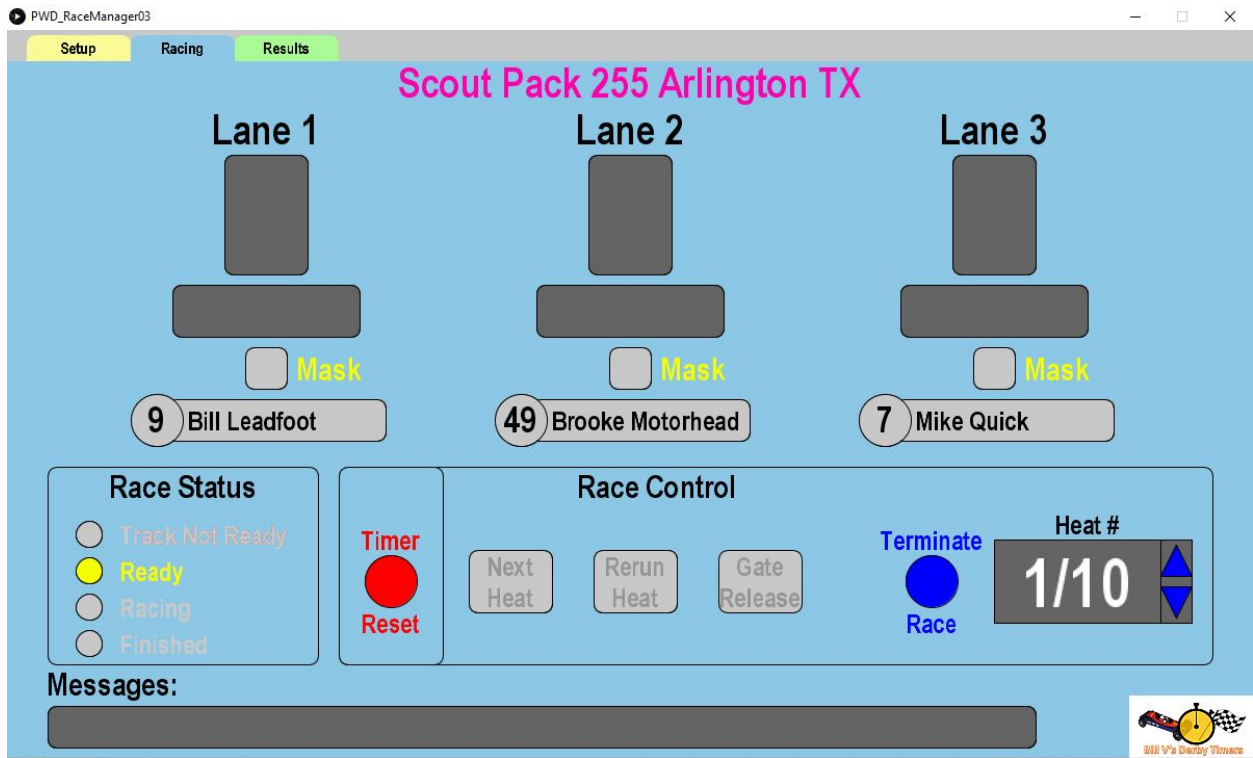

Figure 5 – Timer Ready Example
4. Click on the 'Next Heat' button (Refer to Fig. 5).